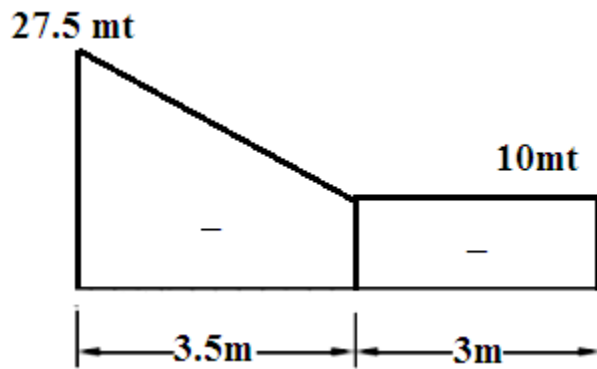

Fig. 3.43.a
For the given a bending moment diagram in Fig. 3.43, put the static system of a beam to give this bending diagram.
- 1- The structural system of the beam that has bending moment diagram indicated in Fig. 3.43.a must be cantilever beam because this moment is negative moment.